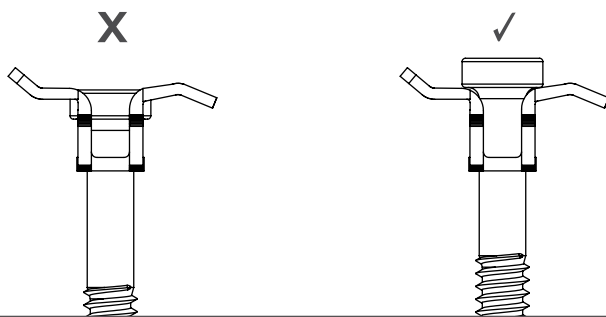

Fig. 19
3. Insert the second cut Infill Grooved Board at an angle allowing it to engage with the exposed end of the HULK Hidden Clips with Metal Screws. As shown in Fig. 19.